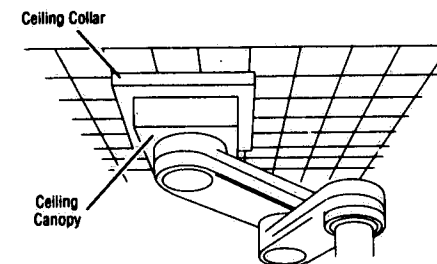

Figure 6-1. Ceiling Collar and Canopy
3. Remove ceiling collar and canopy, exposing manifold assembly (see Figure 6-1).
2. Remove ceiling collar and canopy, exposing bearing plate (see Figure 6-1).
3. Remove ceiling collar and canopy, exposing bearing plate (see Figure 6-1).